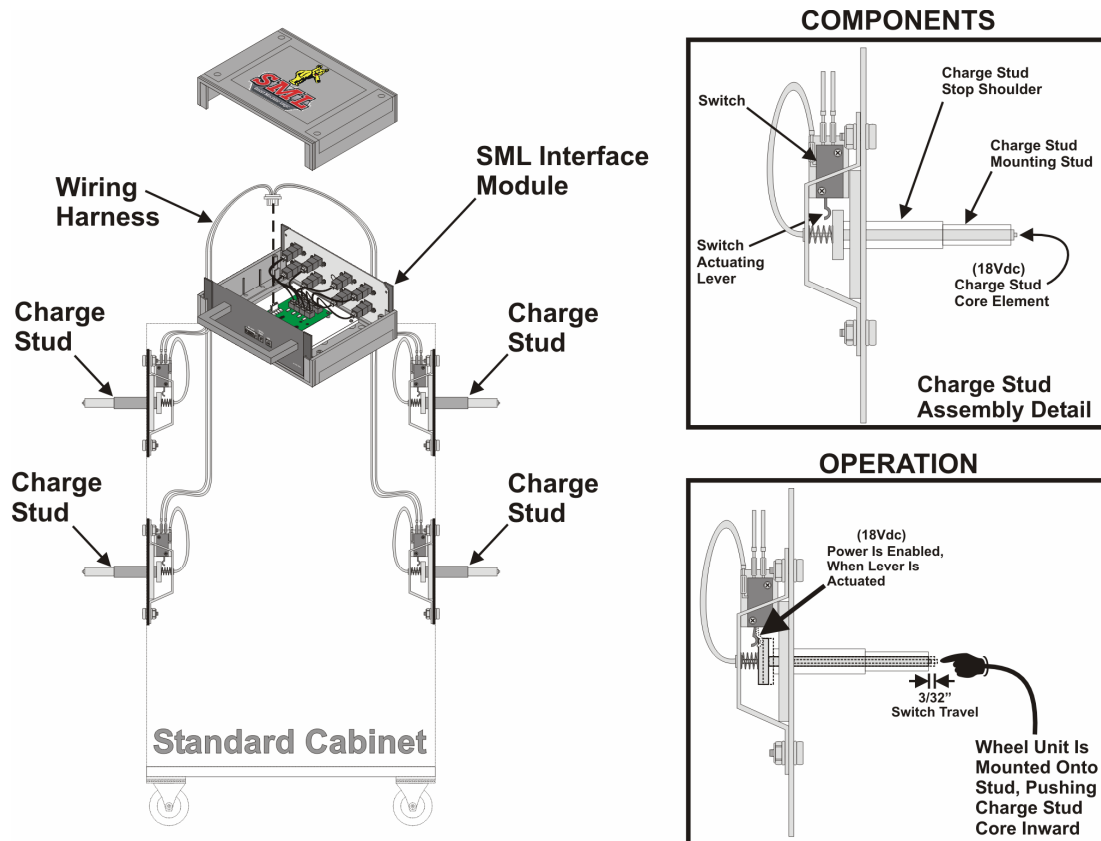

Figure 2-8. Charging Circuit and Charge Studs (Optional)
- 2.8.1 Charging Stud(s). Four (4) charging studs used to mount the wheel units to a cabinet, provide an 18Vdc charging circuit, for each wheel unit's battery. A charge conductor applies 18Vdc to the charge interface module, inside each wheel unit, and the charge stud its self, serves as ground connection. Refer to figure 2.8.